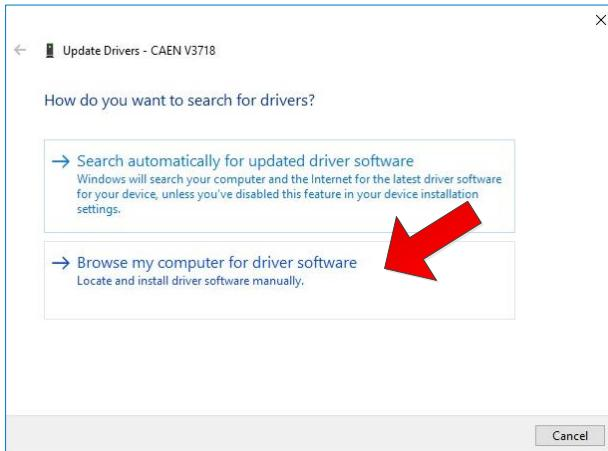

Fig. 11.3: USB Driver Installation: step 3
3. Click on *Browse my computer for driver software* option (Fig. 11.3).